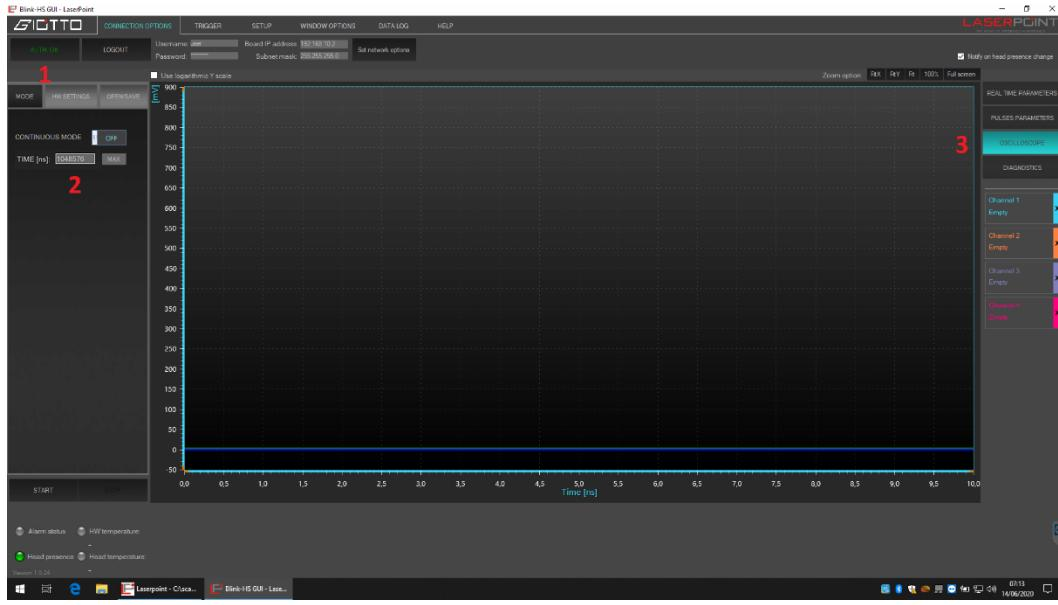

Figure 9
3. The authentication is performed when green label is on (**1, fig.9**)
4. Select the time span (**2, fig.9**) in oscilloscope mode (**3, fig.9**) → max 1.048 ms time slot